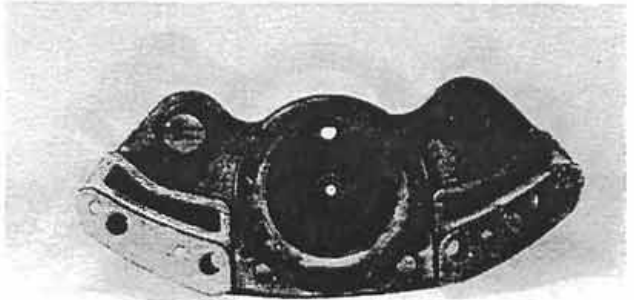

Figure 15:
2. Fit the lip of the dust boot into the groove near the edge of the piston bore (Fig. 15).